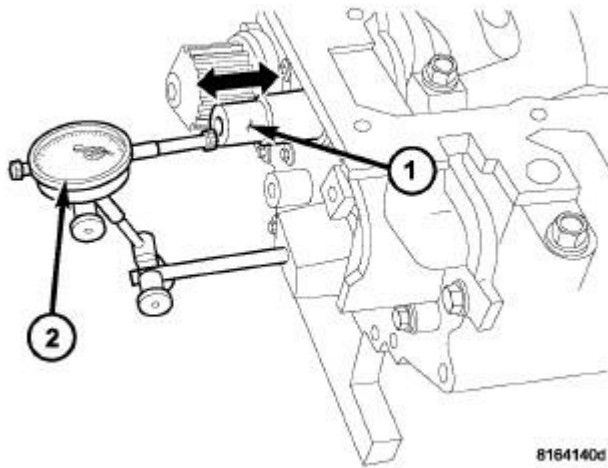

Fig. 189: Checking Crankshaft End Play - Typical
1. Mount a dial indicator (2) to front of engine with the locating probe on nose of crankshaft (1). Refer to **Fig. 189**.